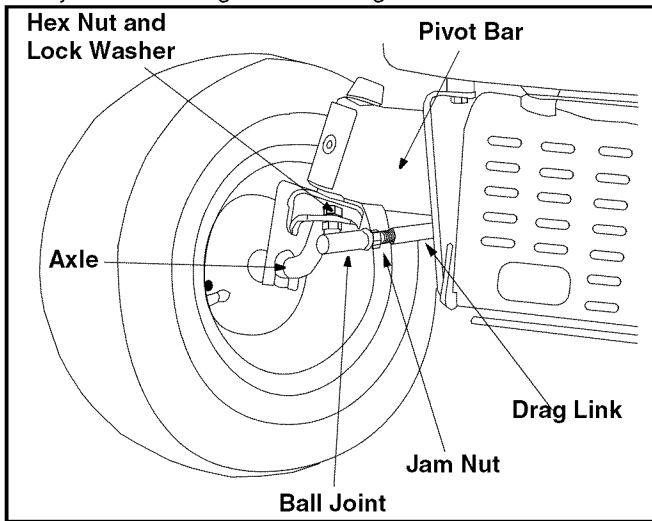

Figure 16
- Loosen the jam nut found on the drag link at the rear of the ball joint. See Figure 16.
- Remove the hex nut and lock washer on the top of ball joint. See Figure 16.